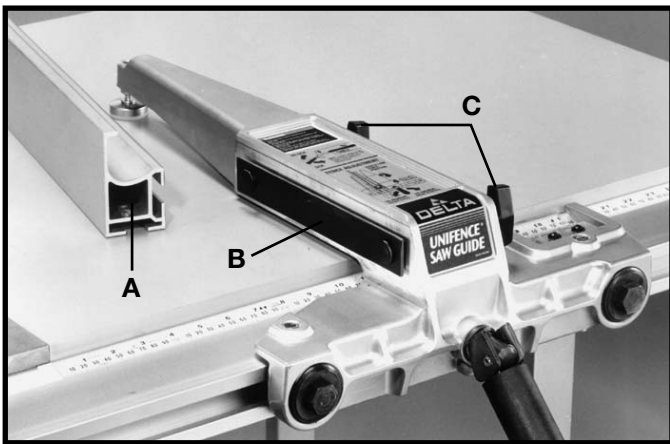
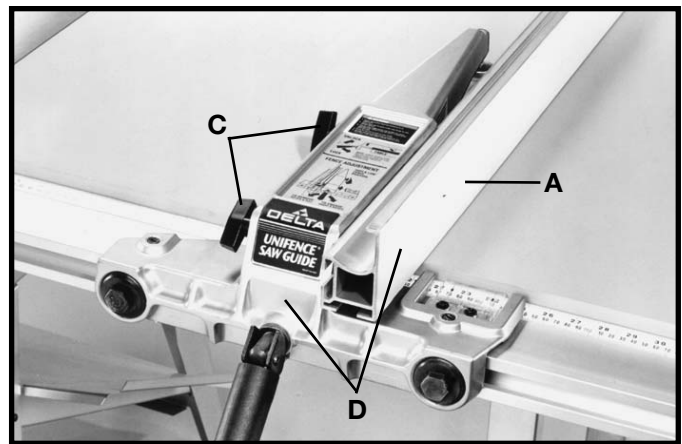

Fig. 105
Fig. 106
In some cases it may be desirable to use the fence on the left side of the saw blade. This is easily accomplished by repositioning the fence (A) Figures 105 and 106, fence clamp bar (B) and lock knobs (C) so that the fence (A) will be attached to the right side of the fence body, as shown in Fig. 106. The complete fence assembly (D) Fig. 106, can easily be moved to the left side of the saw table.